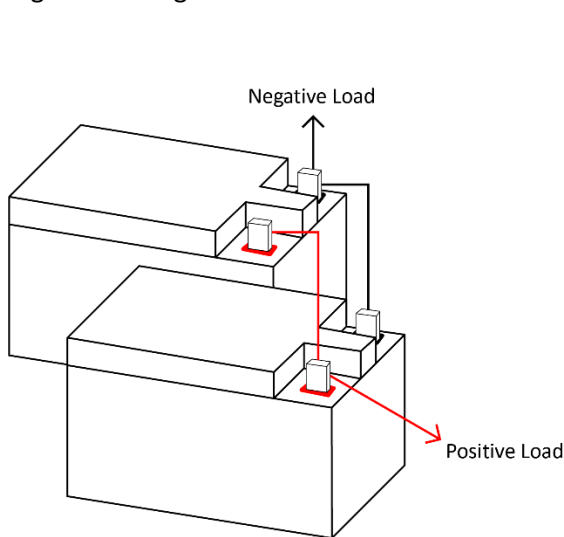
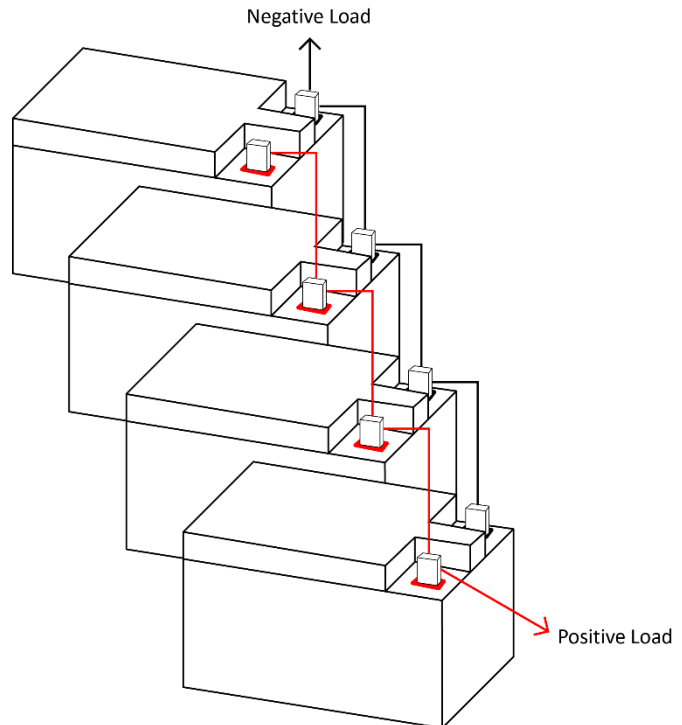

Figure 3.1: Two 5024 Batteries connected in Parallel to create a 24V 100Ah Battery Bank
Figure 3.2: Four 5024 Batteries connected in Parallel to create a 24V 200Ah Battery Bank
8. Repeat steps 3-6 for additional batteries in the system. An example of a finished connection can be found below in Fig. 3.1 and Fig. 3.2.